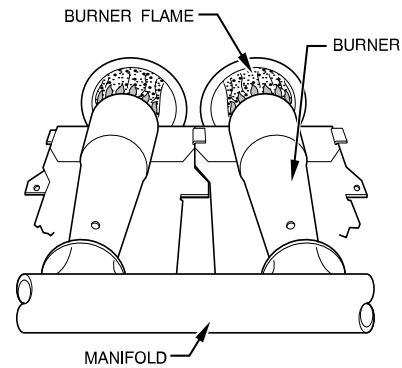

Fig. 65 – Burner Flame
- When correct input is obtained, replace caps that conceal gas valve regulator adjustment screws. Main burner flame should be clear blue, almost transparent See Fig. 65.